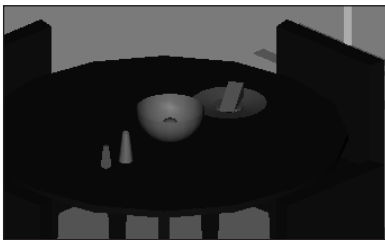

Figure 25-4: An initial rendering using default options and a crop window
5. At the `Pick crop window to render:` prompt, pick a window similar to that shown in Figure 25-4. Wait until AutoCAD renders the drawing.
6. Save your drawing. It should look like Figure 25-4. As you can see, the rendering is too dark and the objects need realistic materials.